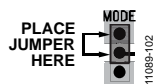

Figure 6. Enabled Jumper Position
- Use a jumper to connect the top two pins of the MODE test bus. This connects MODE to VIN and enables the converter (see Figure 6).